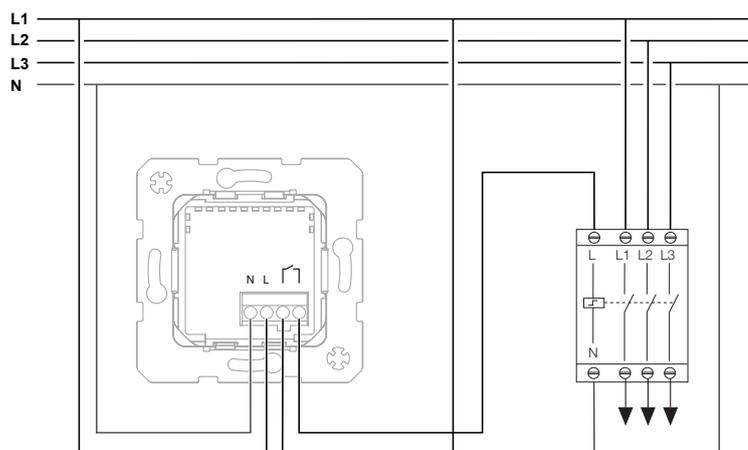

Figure 4
-  Observe permissible connected load. If necessary use load connector (Figure 4).
- Install insert (1) into wall box, connecting terminals must be at the bottom.
- Fit frame (2) and screw to fixing element (3).
- Fit hotel card receptacle (4) and fasten with screws.
- Snap design cover (5) onto hotel card receptacle.